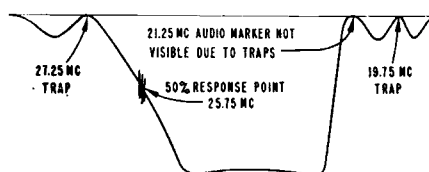

Figure 2-3. Overall Video IF Response Curve.
5. Check curve obtained against the ideal over-all video IF amplifier response curve shown in figure 2-3, also check trap and video IF carrier points by means of marker generator. It is important that Marker pips be in the proper location on the response curve as shown in figure 2-3. Correct location of 25.75 MC marker, should be 6db below